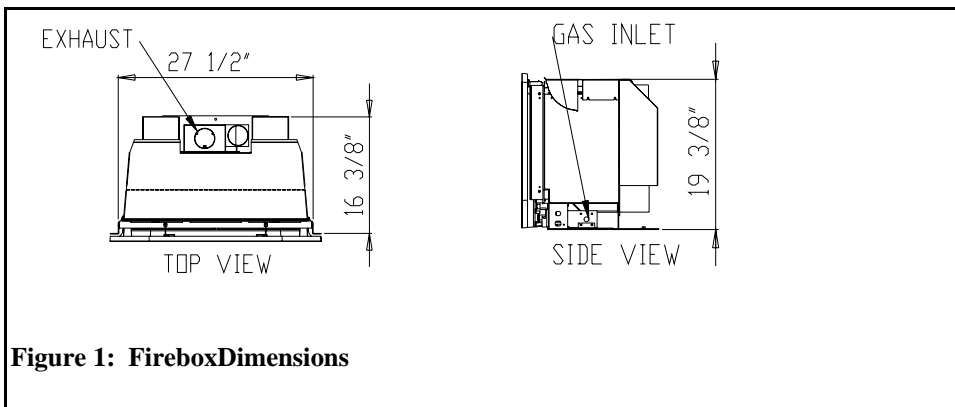

Figure 1: FireboxDimensions
-If necessary, remove the smoke shelf, internal baffles, screen, masonry lining and doors. (see the Dimensions in *Figure 1*).
- Repeat this process to the top outer edge of both the intake and exhaust collars on the back of the unit. The exhaust adaptor is the collar nearest the center of the unit, the intake adaptor collar is on the right side of the stove (*refer to Figure 1, on page 7*) Install the restrictor if necessary. Slide a hose clamp over the ends of both flexible vent pipes. Place the flexible vent pipe marked "intake" onto the intake collar, place the flexible vent pipe marked "exhaust" onto the exhaust collar. Secure them to the collar adaptors by tightening the hose clamps with a slotted screwdriver or 5/16" nut driver.